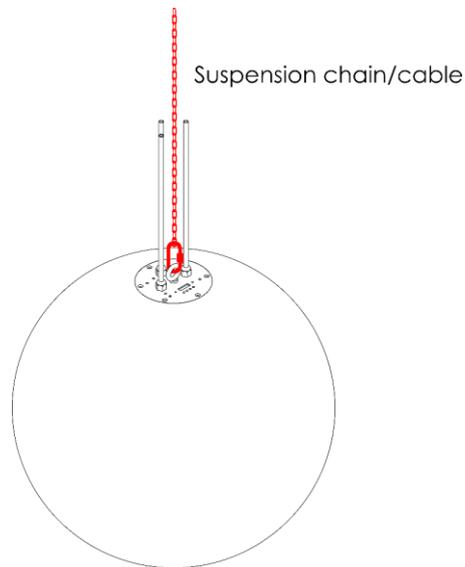

Fig. 05
Use a suitable suspension chain or cable to hang the device. Make sure that the suspension cable/chain can hold 10 times the weight of the Illumisphere 50. Fasten the suspension chain/cable onto the **cable suspension eyelet (08)**, see Fig. 05.